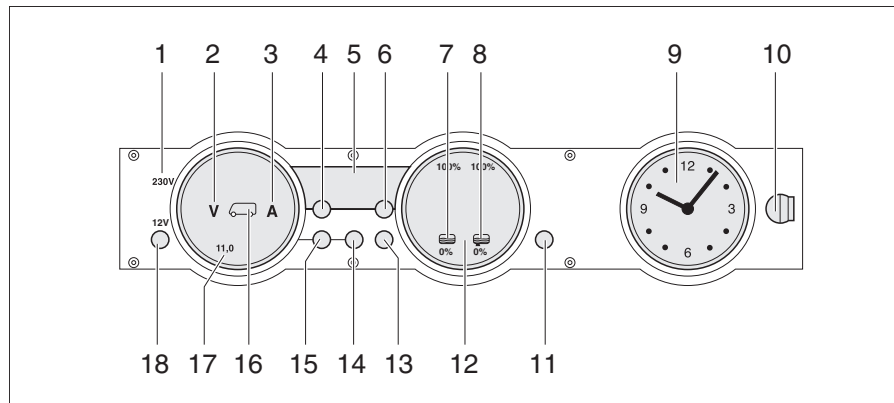

Fig. 259 Panel MP 20-T
The 230 V indicator lamp (Fig. 259,1) lights up whenever line voltage is available at the transformer/rectifier input.
The 12 V main switch (Fig. 259,18) switches the panel and the 12 V power supply of the living area on and off.
- Briefly press the "12 V" button (Fig. 259,18). The 12 V living area power supply is switched on. The "12 V" indicator lights up.
- ▷ If, after switching on, the "11.0" LED of the volt indicator and the "V" volt symbol (Fig. 259,2) in the batteries gauge (Fig. 259,17) flash, the voltage of the living area battery is too low. Charge battery.
- ▷ If, after switching on, the "12 V" indicator, the symbol for the living area battery (Fig. 259,16) and the "V" volt symbol (Fig. 259,2) flash three times, battery separation is activated. Deactivate battery separation.
- Briefly press the "12 V" button (Fig. 259,18). The 12 V living area power supply is switched off. The "12 V" indicator goes out.
- Press button for living area battery (Fig. 259,14) and hold it down for approx. 10 seconds. The "V" volt (Fig. 259,2) and "A" ampere (Fig. 259,3) symbols flash three times. The living area battery is disconnected from the 12 V power supply.
- Press the "12 V" button (Fig. 259,18) and hold it down for approx. 5 seconds. The "V" volt symbol (Fig. 259,2) flashes three times. The living area battery is connected to the 12 V power supply. The indicator lights up after approx. 2 seconds.
- Press button for living area battery " (Fig. 259,14). The "V" volt symbol (Fig. 259,2) lights up. Depending on whether the battery is being charged or discharged, the "A" ampere symbol lights up white or red respectively. The battery voltage and current of the living area battery are displayed using the LEDs in the gauge.
- Press button for starter battery " (Fig. 259,15). The "V" volt symbol (Fig. 259,2) lights up. The battery voltage of the starter battery is displayed using the LEDs in the gauge.
- Press the tanks button " (Fig. 259,13). The water tank " (Fig. 259,7) and waste water tank " (Fig. 259,8) symbols light up. The fill level of the water tank (left-hand scale) and the waste water tank (right-hand scale) are indicated using the LEDs in the gauge.
The "V" volt symbol (Fig. 259,2) and the "11.0" LED flash as soon as the battery voltage falls below 11 V (measured during operation) and there is the threat of a total discharge.
The water tank symbol  (Fig. 259,7) or waste water tank symbol  (Fig. 259,8) flashes when the water tank is empty or the waste water tank is full.